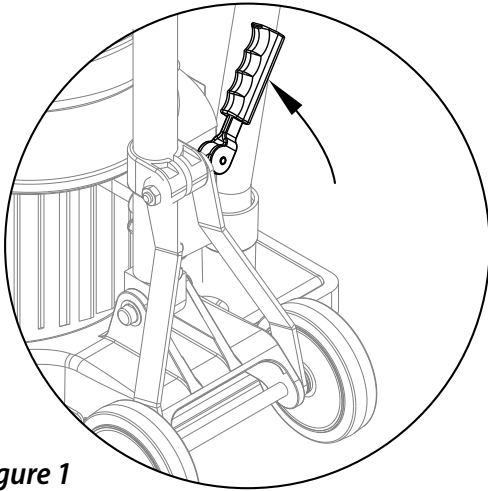

Figure 1
- 2 Raise and lock the handle in the upright position. To lock the handle, pull up on the Handle Release Compression Lever (see Figure 1).